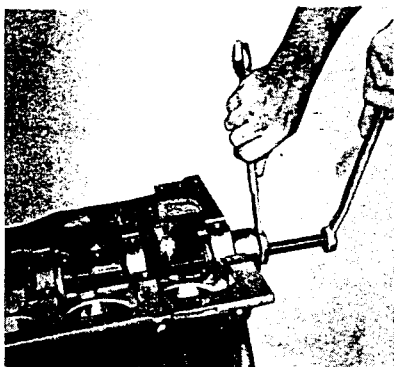

Figure 8-1-33
5. Using two wrenches, hold screw shaft and turn puller nut to remove bearing (see Figure 8-1-33).
6. Remove pilot from shaft and install on driver handle with shoulder to handle, then drive out front and rear bearings from outside to inside of block (see Figure 8-1-33).